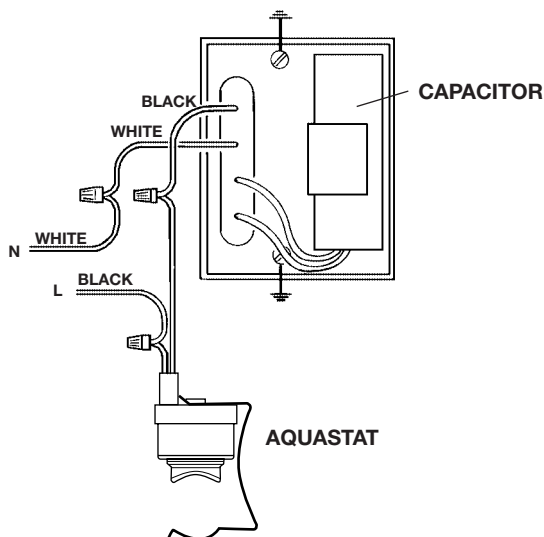

FIGURE 1
4. Make the electrical connections according to the wiring diagram provided. (See Figure 1)